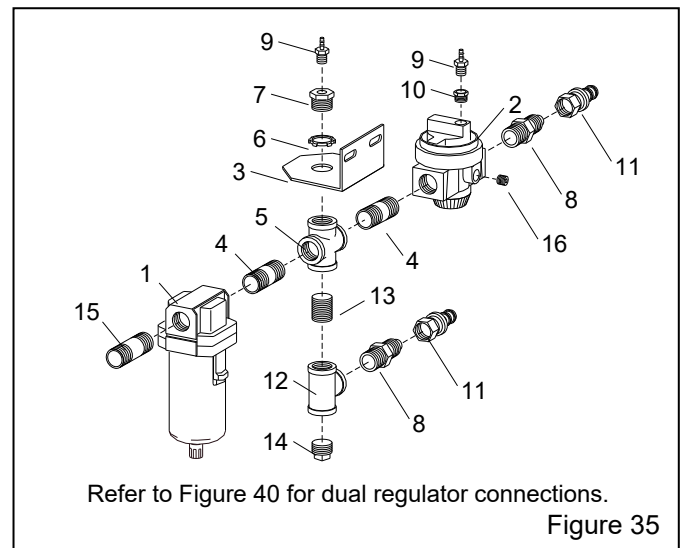

Figure 35
9.4 BNP Filter-Regulator Inlet Piping Assembly – Figure 35